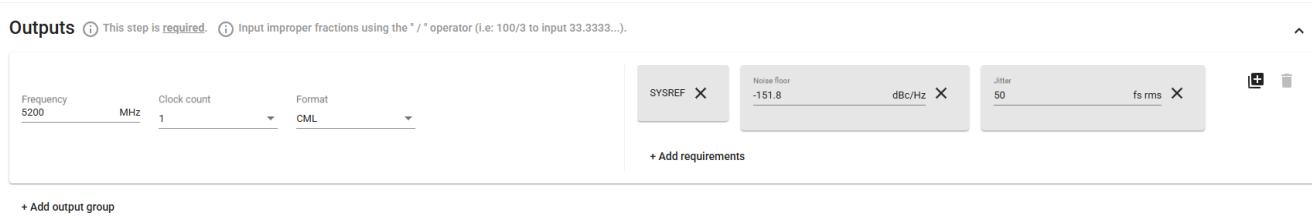

Figure 9-3. Outputs Section
3. Enter your output specifications under *Outputs*. Set *Frequency* to 5200MHz, keep *Clock* count as 1, and set *Format* to CML, as illustrated in Figure 9-3.
- iii. In the jitter and noise floor boxes, set the jitter and noise floor to the values of the ADC12DJ5200RF, which are 50fs and -151.8dBc/Hz, as demonstrated on Figure 9-3. These target values were chosen to relax the clock performance requirements and ensure CTA gives a design since this example wants to use an IC. Once the designs are given, they can be analyzed using Section 5